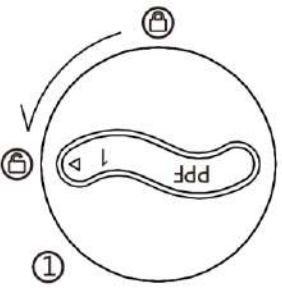

Figure 1
1. Rotate the old filter element for 90° anti-clockwise quickly, as the triangle icon on top of filter element point at  icon, take out the old filter element. (Refer to Figure 1)